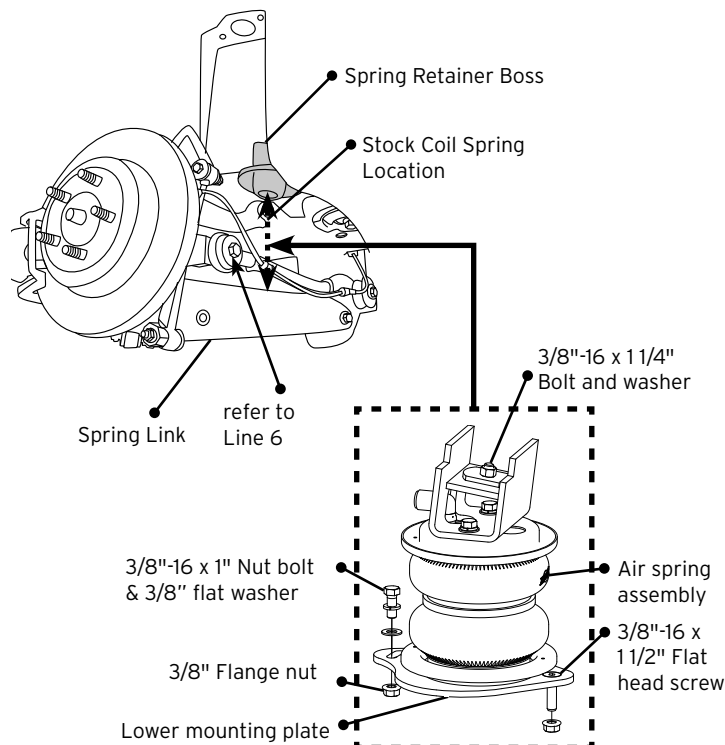

Fig. 5
3. Insert and snug nut and bolts into existing holes required for lower spring link (Fig. 5).